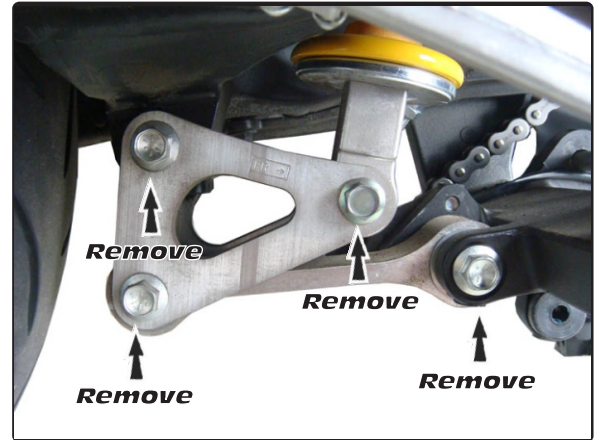

Fig. 1
3. Loosen all of the linkage bolts (Fig. 1)